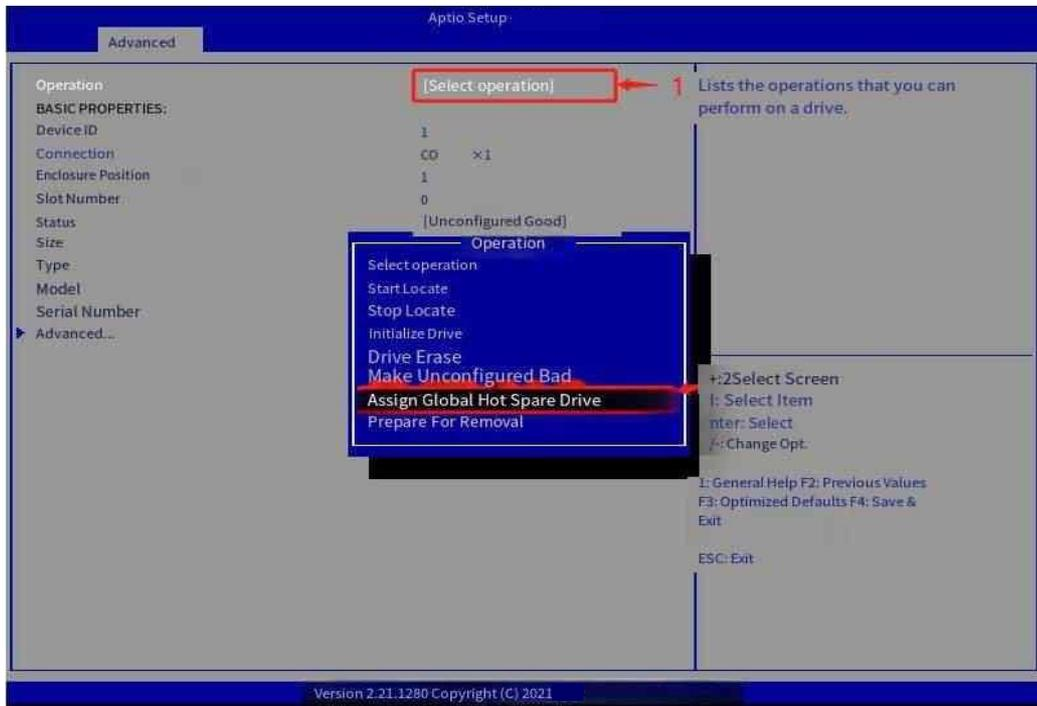
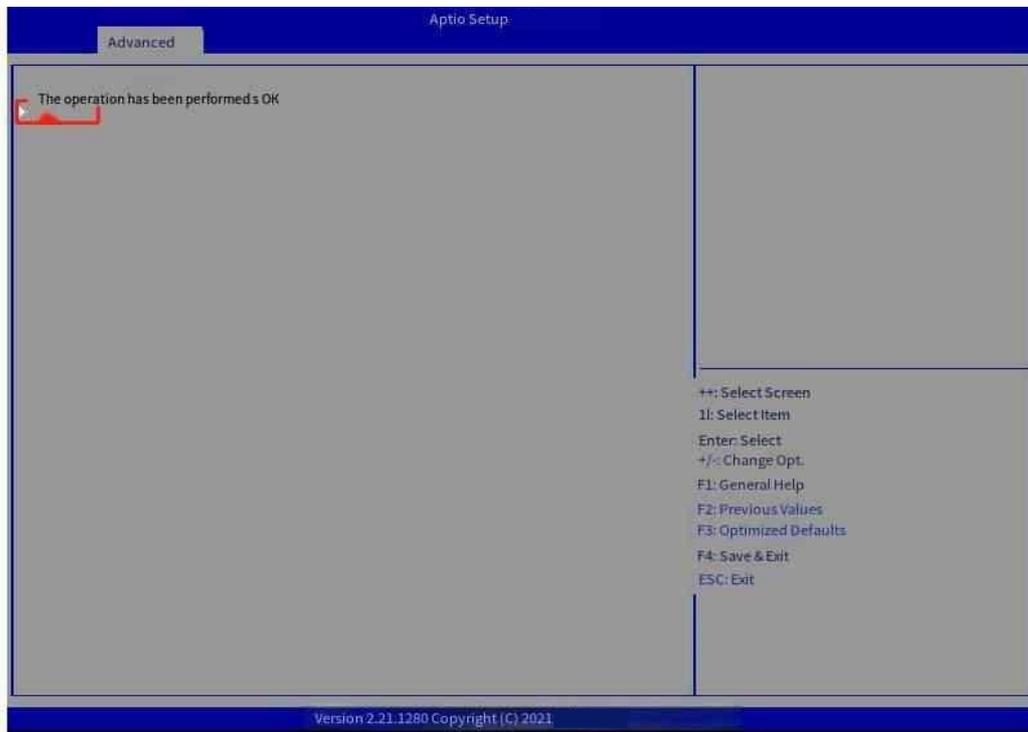

Figure 7-38 Select Assign Global Hot Spare Drive
Figure 7-40 Click Ok
Step 2: Click Select operation, use ↑ and ↓ to select Assign Global Hot Spare Drive (Figure 7-38), and click Go->Ok (Figure 7-40).